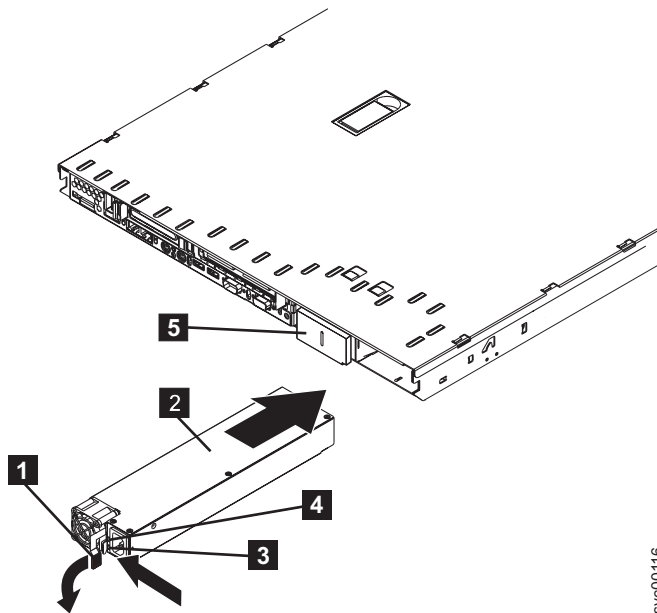

Figure 186. SAN Volume Controller 2145-8F2 power supply handle
- a. Rotate the handle **1** down on the rear of the power supply to the open position, and then slide the power supply forward into the power-supply bay, as shown in Figure 186.